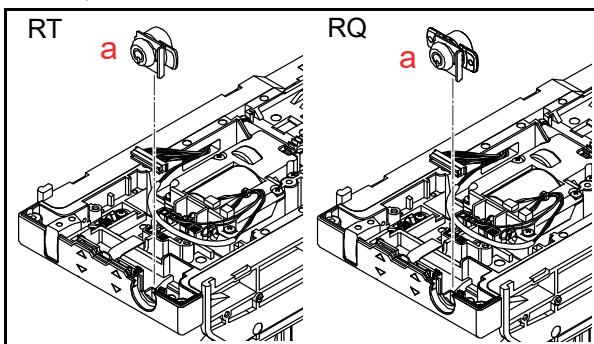

**Figure 4-18** Transport Board Removal
1. Release the single (1) Locking Tab (Figure 4-18 **a**) to remove the FPC Harness (Figure 4-18 **b**).
2. Unplug the three (3) Connectors (Figure 4-18 **c**1 through **c**3).
3. Remove the two (2) Screws (Figure 4-18 **d**1 & **d**2).
4. Remove the Transport Board (Figure 4-18 **e**).